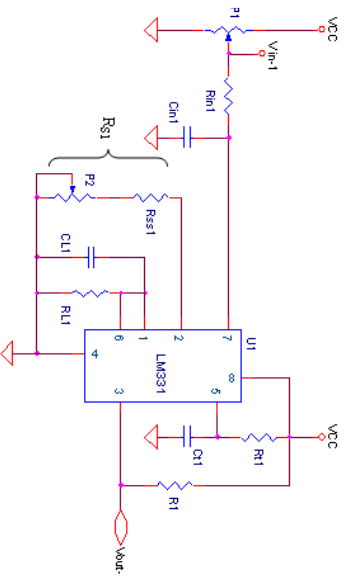
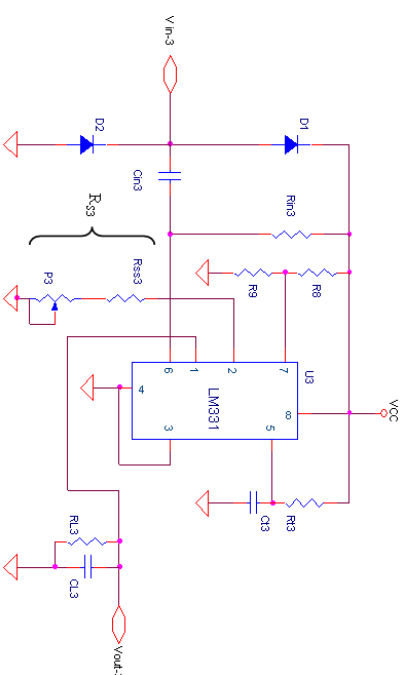
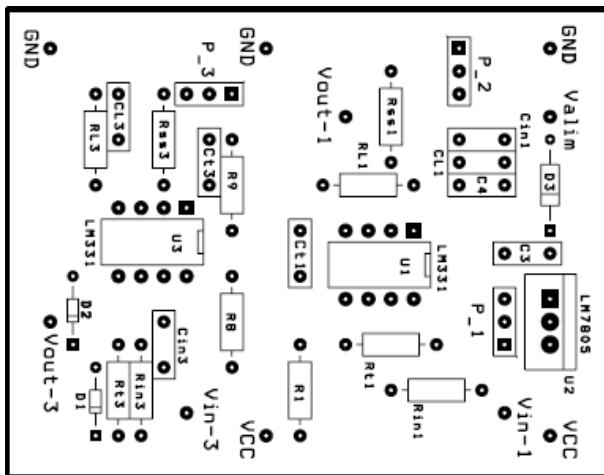
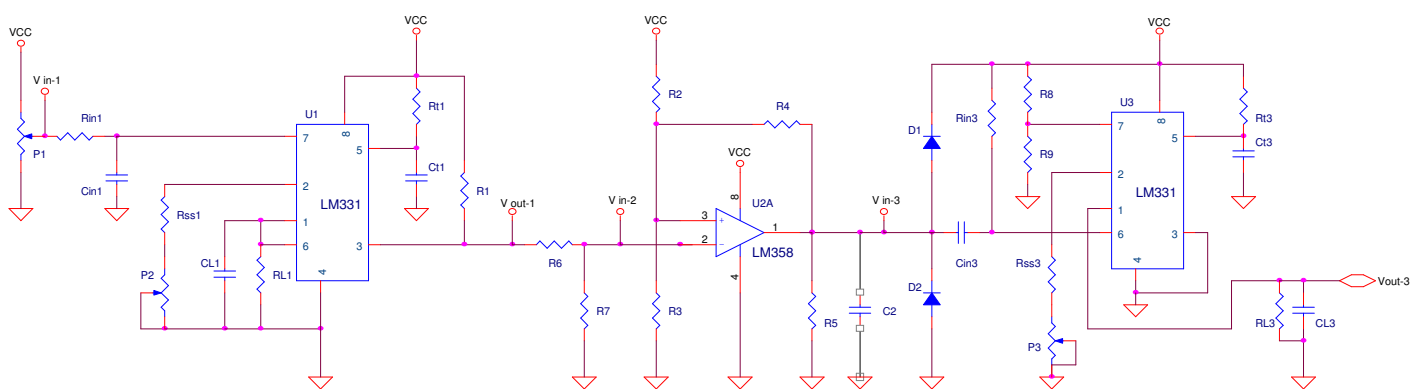

Fig. 8b. Schematic of the voltage-to-frequency converter
Fig. 9. Schematic of the frequency-to-voltage converter
Fig. 11. The assembly of the system of the $U-f$ converter and the $f-U$ converter, on the electronic board
Figure 12: Assembly of the system with $U-f$ converter, voltage divider, hysteresis comparator and $f-U$ converter
a) **Turn off the supply of the circuit** (remove the cable from the orange power supply), if the circuit is supplied. Identify the circuit (Fig.11 and Fig.12), which corresponds to the schematic from Fig. 8b, the input (V_{in-1}) and the output (V_{out-1}) of the voltage-to-frequency converter. Check the correspondence between the schematic and the circuit on the board.
a) **Power off the circuit** and identify the parts (Fig. 11 and Fig. 12) which corresponds to the schematic in Fig.9, and the input (V_{in-3}) and the output (V_{out-3}) of the frequency-to-voltage converter, also. Check the correspondence between the schematic and the circuit. Connect the scope (CH2), and the proper voltmeter, to measure the DC voltage V_{out-3} , and the scope (CH1) and the frequency meter at V_{in-3} to view the input waveform and to measure its frequency. Input TTL signal from the corresponding output of the generator (press **SHIFT+9**) and **power on the circuit**.
a) **Power off the circuit,** disconnect the function generator and make the assembly from Fig.12 (without C_2), where $R_2 \approx 68\text{k}\Omega$, $R_6 \approx 27\text{k}\Omega$, $R_7 \approx 5.6\text{k}\Omega$. Use the same settings for the U-1 and the f-U converters (at points 1 and 2), as well for the circuit for the comparator (from point 4).